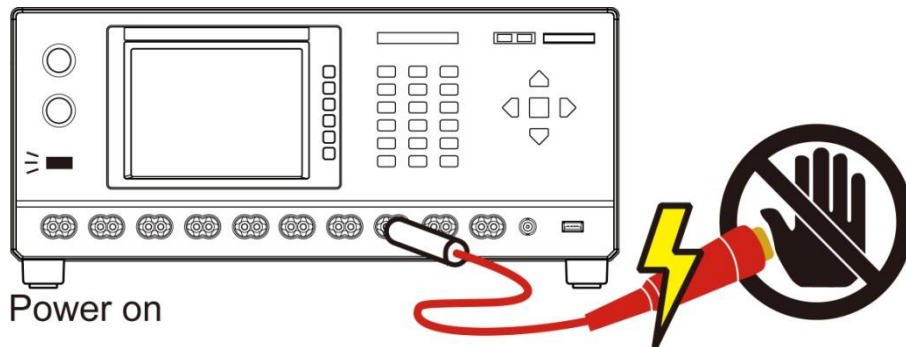

Figure 3-3 No Touch When Outputting High Voltage
- ⚡ CAUTION** : Do not touch the alligator clip on the test cable as Figure 3-3 shows. : When the host is in testing state the insulation of rubber shield on it is : not enough; therefore it is hazardous to touch it.